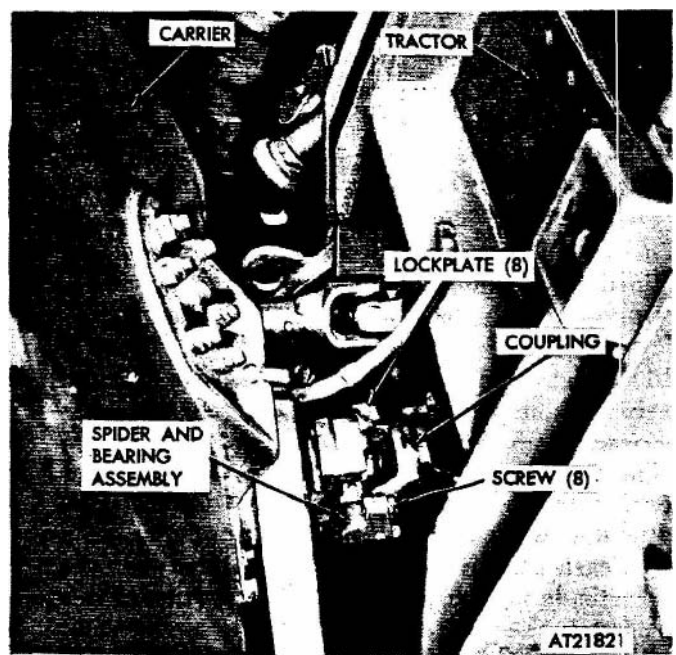

Figure 2-168. Coupling assembly (tractor-to-carrier), removal and installation.
- (1) Remove eight screws and lock plates securing coupling assembly between tractor and carrier spider and bearing assemblies (fig 2-168).
- (2) Remove coupling assembly from vehicle.
(1) Position coupling assembly to tractor and carrier spider and bearing assemblies (fig 2-168).
(2) Secure coupling assembly with eight screws and lock plates. Bend tabs on lock plates to secure screws.
(3) Service coupling assembly (refer to LO 9-2320-242-12).